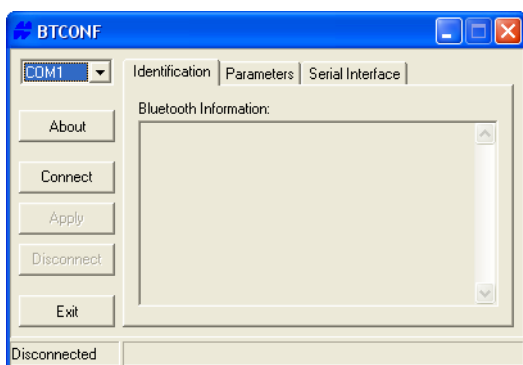

Figure 2-13. Bluetooth Module Configuration Main Screen
2. Run the Bluetooth module configuration program (Figure 2-13).